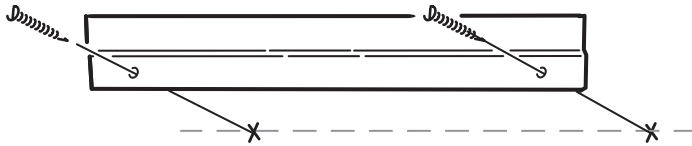

Fig. 2. - Mounting Bracket
3. Remove the cabinet from the wall and using a spirit level, mark a horizontal line 40mm below the pencil mark. Hold the mounting bracket in place with the holes corresponding with the marked line. Ensure the bracket is central, and mark the position of the holes, *see Fig. 2.*